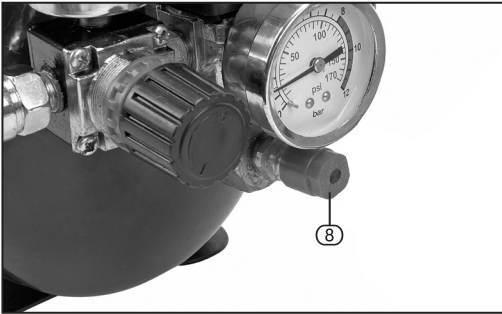

FIG. 5
7.1 BASIC COMPRESSOR OPERATION – FIG. 5
- Connect the air line to the compressor by pulling back the collar (4.1) on the air outlet quick coupling (4) and inserting the corresponding air coupling fitted on the air line. Release the collar so it slides back in place to secure the air coupling.